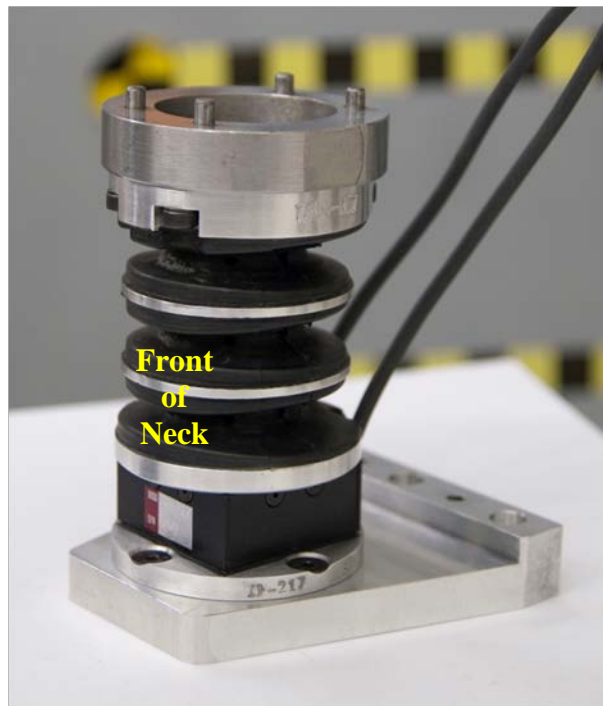

Figure 47. Assemble neck to upper neck load cell
- Assemble neck to upper neck load cell using four (4) M5 x 10 SHCS inserted through the bottom of the twist fixture end plate (Figure 47).